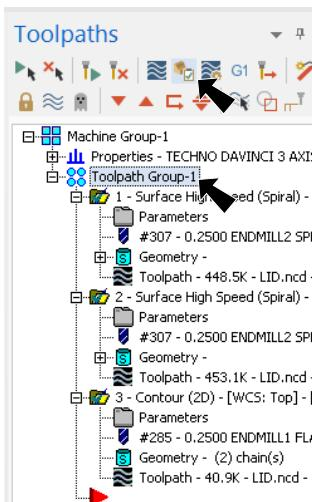

Fig. 95
Step 1. Click **Toolpath Group-1** in the Toolpaths Manager to select **all three toolpaths**, Fig. 95.
Step 2. Click **Verify**  in the Toolpaths Manager, Fig. 95.
Step 3. Click **Play**  (R) in VCR bar along bottom of the window.